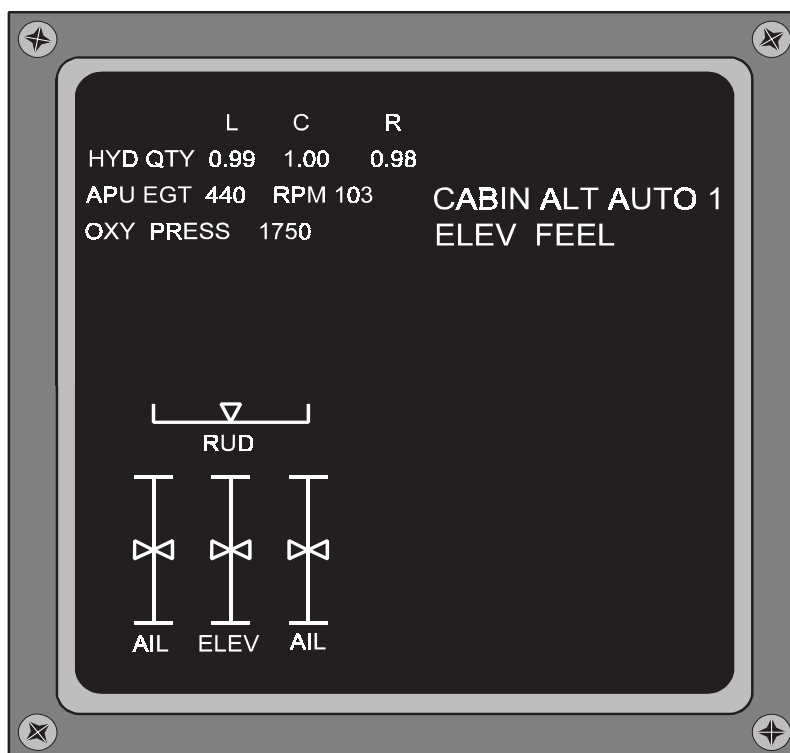

Figure 39.4 Status Mode Display
- **Status Display Switch.** Also of the momentary-push type, this is used to display the status mode information referred to earlier, on the lower display unit. The display is known as a 'status page', an example of which is shown in Figure 39.4.